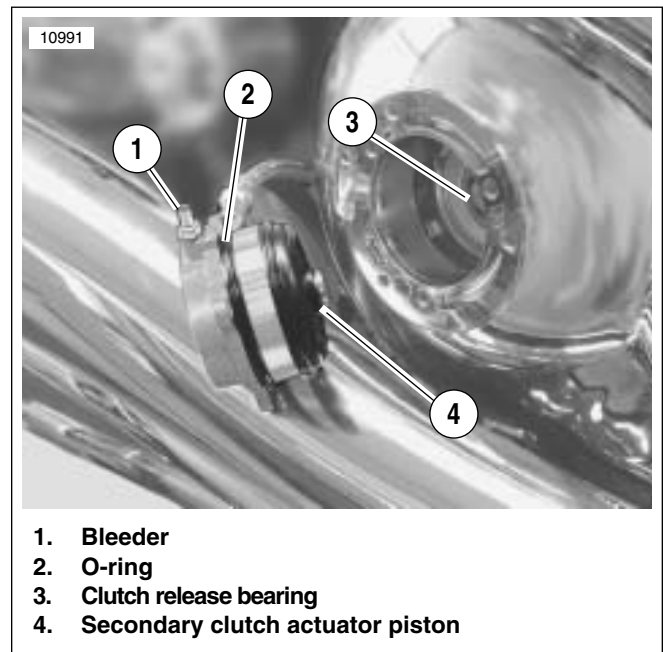

Figure 2-42. Secondary Clutch Actuator
3. See Figure 2-42. Inspect O-ring (2). Replace if necessary and re-install actuator.